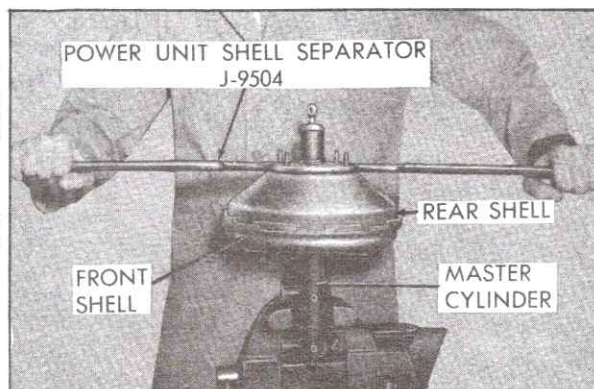

Fig. 5-12 Removing Delco - Moraine Power Head Rear Shell
3. Place assembly in bench vise with rear shell up, tighten vise jaws securely on master cylinder, Fig. 5-12, and remove dust guard retainer, dust guard and silencer from rear shell.
4. Install Power Unit Shell Separator, J-9504, over mounting studs on rear shell, Fig. 5-12. Applying downward pressure, rotate rear shell counterclockwise, disengaging it from front shell.